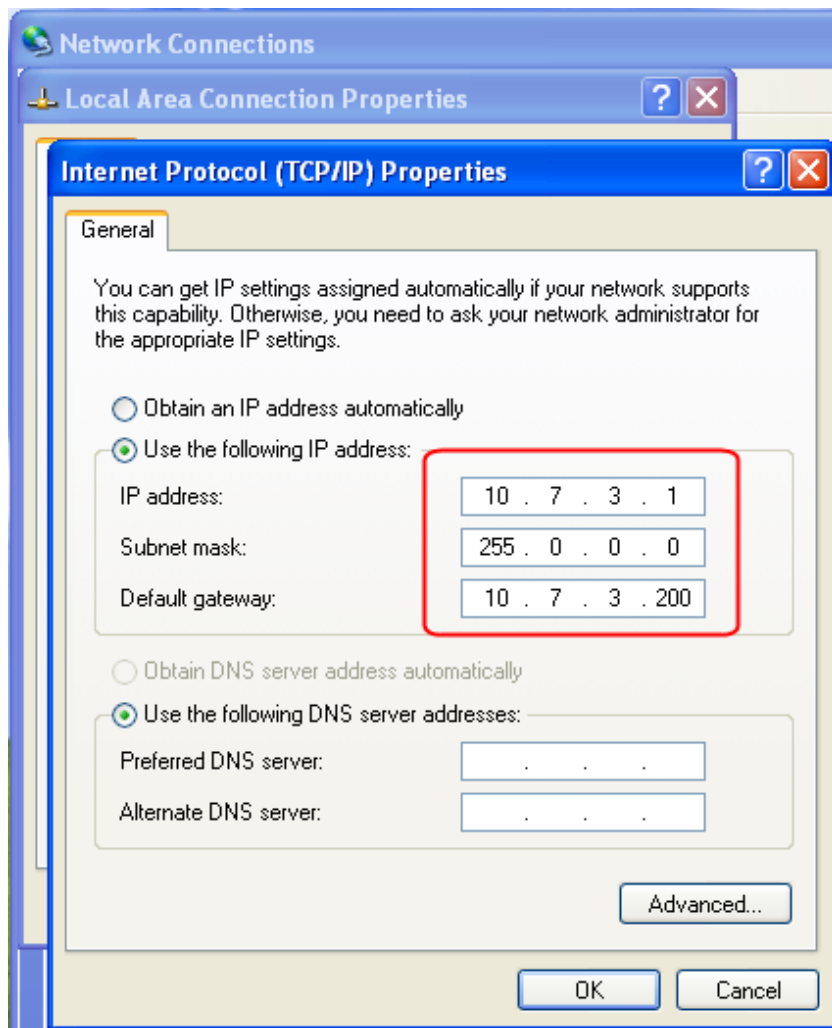

Figure 3-1 Wired Connection to the OMT on the Master AU
2. Change the TCP/IP properties (see Figure 3-1):